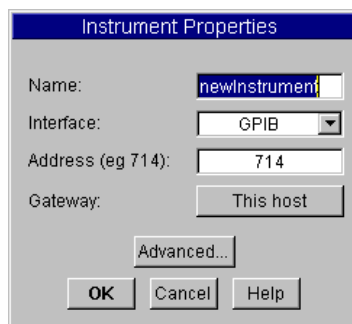

Figure 83 Instrument Properties Dialog Box
- 2 In the Instrument Manager dialog box, make sure My Configuration is highlighted, and click **Add . . .** under Instrument. The Instrument Properties dialog appears, as shown in Figure 83.